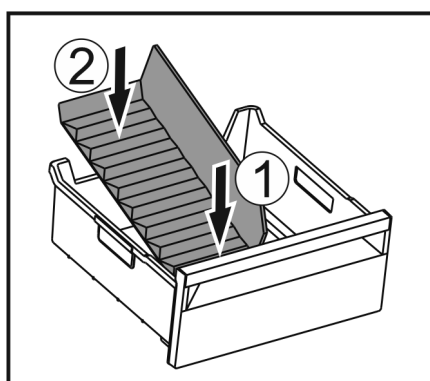

Fig. 142
- Insert the front part of the ice compartment divider. Fig. 142 (1)
- Lower the rear part of the ice compartment divider to the drawer bottom. Fig. 142 (2)